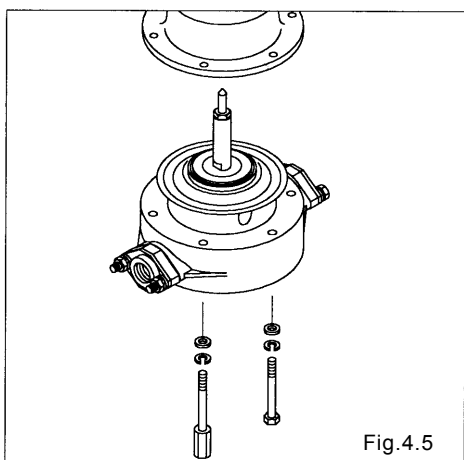

Fig.4.5
- Remove the 6 out chamber locking bolts and studs and remove the out chamber. (AD-10, AD-25) [Fig.4.5]
- Remove the 8 out chamber locking bolts, studs and nuts respectively, and remove the out chamber. (AD-40, AD-50) [Fig.4.5]
- Pull out the diaphragm, center disk and center rod from the main body. [Fig.4.5]